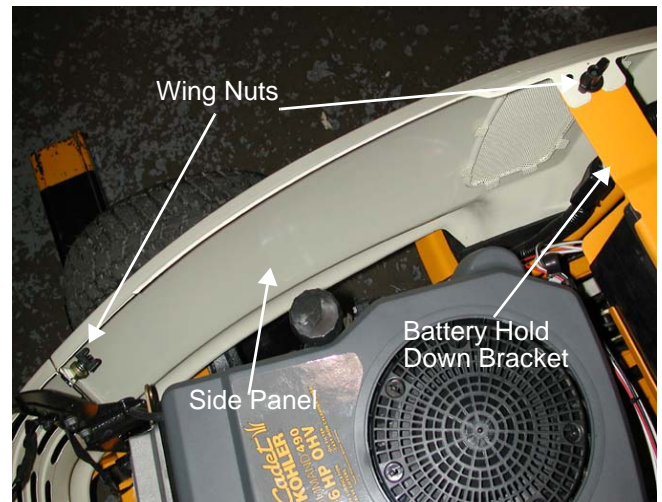

Figure 37.1
- 37.1. Loosen the plastic wing nuts securing the side panels to the battery hold down bracket and the grille assembly. See Figure 37.1.